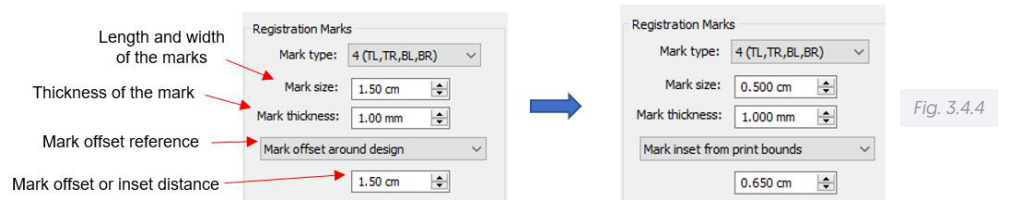

Fig. 3.4.3
- Load the printout into the Muse based on the arrow direction (triangle) shown in the main window of Create Space. In the example being used, FIG. 3.4.3 shows a Portrait orientation (also indicated on the Document Panel) and the printout should be loaded the same way. Note that if the material is not backed (e.g. paper or cardstock), the Muse cutting mat should be used as the carrier.